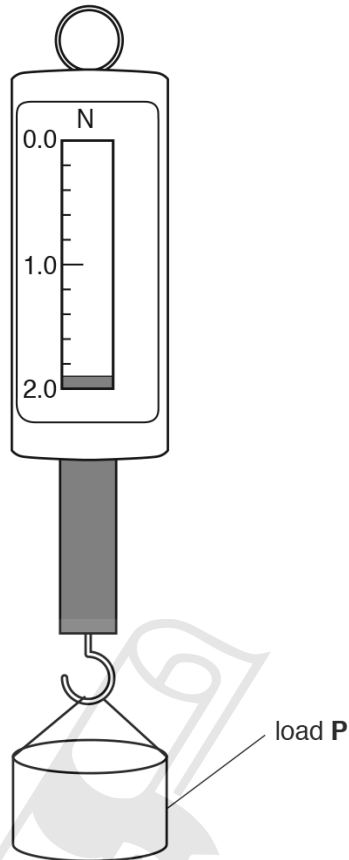

Fig. 4.2
- (d) The student measures the weight P of load \mathbf{P} using a forcemeter. Fig. 4.2 shows the forcemeter.